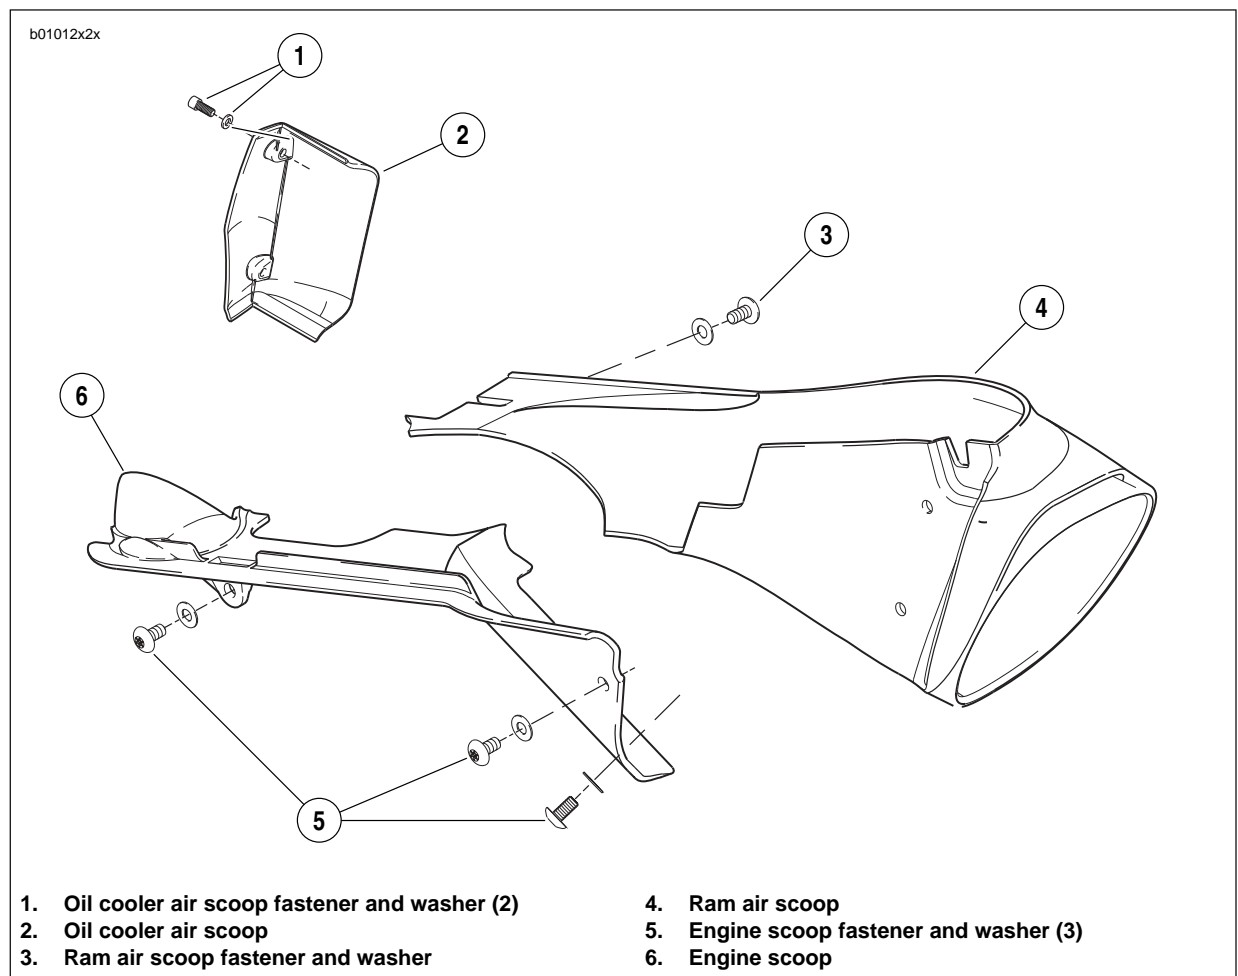

Figure 2-124. RAM Air Scoop, Engine Shroud, Oil Cooler
1. See Figure 2-124. On left side of bike, locate ram air scoop (4).
2. Remove three ram air scoop fasteners (3).
3. Remove ram air scoop (4).
1. See Figure 2-124. Position ram air scoop (4).
2. Install ram air scoop (4) with three fasteners (3). Tighten to 12-36 **in-lbs** (1.4-4 Nm).
1. See Figure 2-124. On right side of bike, locate engine shroud air scoop (6).
2. Remove three engine shroud air scoop fasteners (5).
3. Remove engine shroud air scoop (6).
1. See Figure 2-124. Position engine shroud air scoop (6).
2. Install engine shroud air scoop (6) with three fasteners (5). Tighten to 12-36 **in-lbs** (1-4 Nm).
1. See Figure 2-124. On left side of bike, locate oil cooler air scoop (2).
2. Remove two oil cooler air scoop fasteners (1).
3. Remove oil cooler air scoop (2).
1. See Figure 2-124. Position oil cooler air scoop (2).
2. Apply LOCTITE 271 (red) to oil cooler air scoop fasteners (1) and tighten to 48-72 **in-lbs** (5.4-8 Nm).